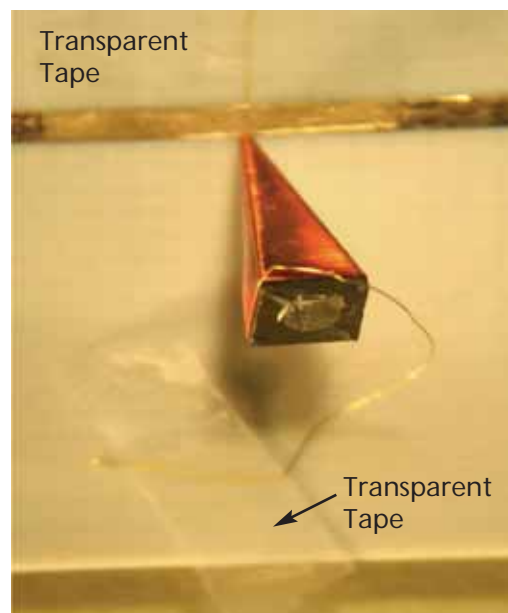

Figure 5: Positioning the coil with clear tape.
3. Position the coil's pointed end lead across the printed line at the scribed location of step 2. Temporarily secure this lead to the printed line and dielectric surface with transparent tape as shown in **Figure 5**. As the picture also shows, it might prove helpful in positioning the piece to secure the second lead to the top dielectric surface as well.